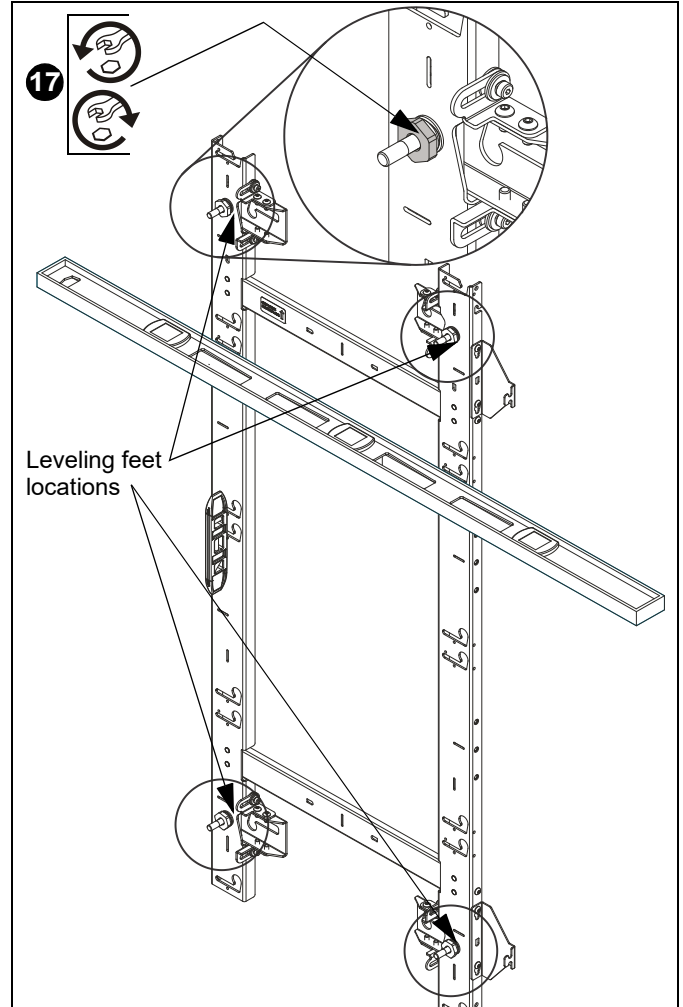

Figure 12
17. Using a level on the front of the mount in various places, use a 1" deep well socket to adjust the leveling feet on the mount until the mount is plumb or even with something that is being used as a reference point. (See Figure 12)